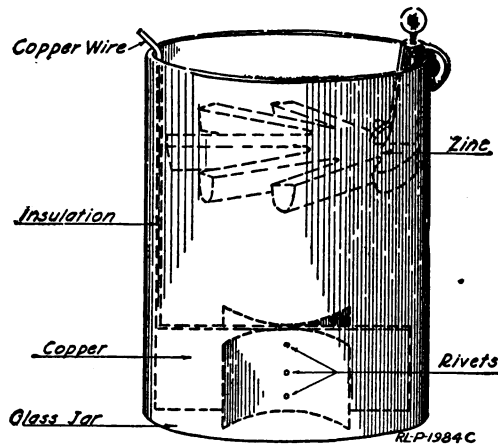

Fig. 11.—The gravity cell, type BA-12
As shown in Figure 11, this cell consists essentially of two metal elements called electrodes, one copper and the other zinc, contained in a cylindrical glass jar with a flat bottom and open top. The electrolyte used in the cell is a solution of sulphate of zinc. In order to prevent the accumulation of gas bubbles at the copper plate from increasing the resistance, or polarizing the cell, a second solution called a *depolarizer* is used. The depolarizer is sulphate of copper.
*b.* Spread the strips of the copper element apart. Place the copper elements in the bottom of the container, allowing the insulated wire to extend above the rim of the container. (See Fig. 11.) (Make sure that the insulation on the wire is intact.)
*d.* Hang the zinc element on the rim of the container so that the hook part is opposite the wire from the copper element. (See Fig. 11.)